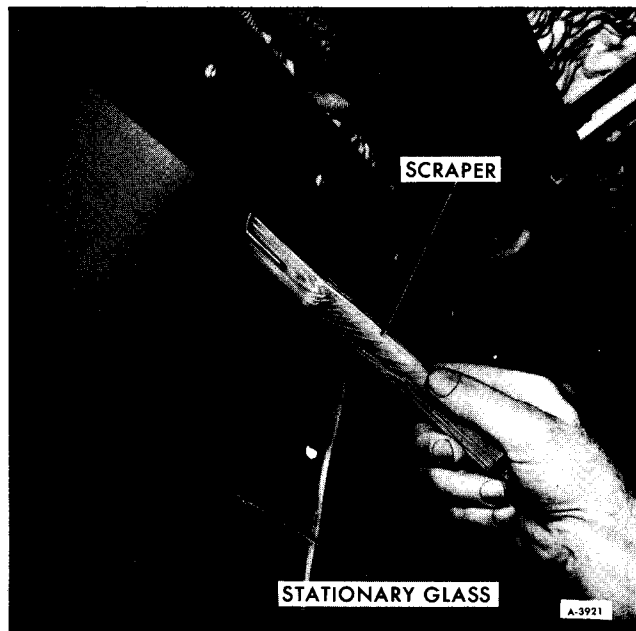

Figure 16—Prying Stationary Glass from Butyl Sealer
4. From inside vehicle, pry stationary glass from butyl sealer, using a scraper as shown in Figure 16. An assistant, standing outside vehicle, should support glass during removal.